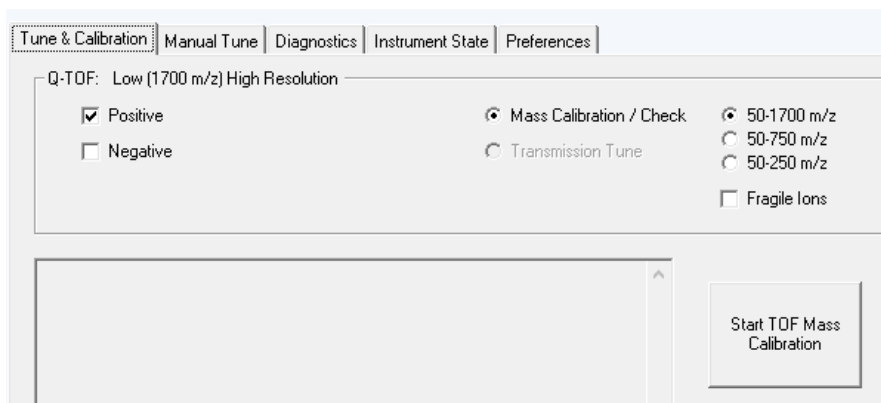

Figure 10. Tune & Calibration tab - Mass Calibration/Check selected
- Click **Mass Calibration/Check** (Figure 10).